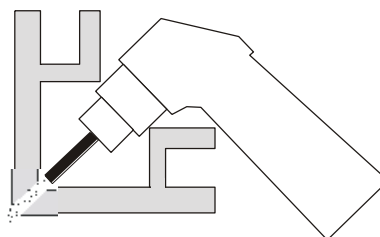

Fig. 4
7. In case of cutting in the corner or around the corner (see Figure 4), use the long electrode and cutting tip (pos. **17** and **20**). The cutting power while using the Long cutting tip is decreased.